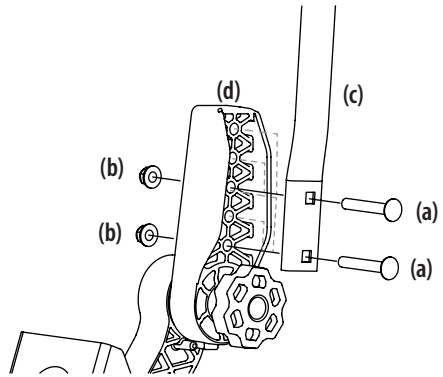

Figure 7
1. Remove the two carriage screws (a) and two flange lock nuts (b) that secure the lapbar drive control lever (c) to the upper handle adjuster (d). See Figure 7.
2. Move the lapbar drive control lever into one of three available heights and secure in place with the carriage screws and flange lock nuts. See Figure 7.
4. If the lapbars do not line up after making the knob adjustment, loosen nuts (b), align lapbars and re-tighten nuts. Once this fine adjustment is made, the lapbars will align when using the knob adjustment. See Figure 7.